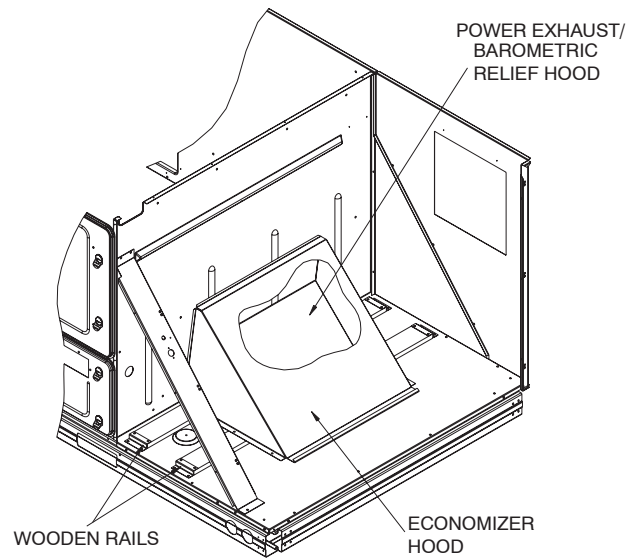

Fig. 18 – Economizer and Barometric Relief/Power Exhaust Hoods Shipping Positions (48PG08-14)
1. Economizer and barometric relief hoods are stored in the condenser section under the slanted coil for shipping. (See Fig. 18 and 19.) Size 16 units also have two 1-in. cleanable filters and a baffle stored between the economizer hoods. Barometric relief/power exhaust hood is shipped inside of economizer hood. Remove screws that secure the wooden rails of the hood assemblies to the unit. Save screws. Slide complete assembly from condenser section. On size 16 units, remove the baffle and save screws.